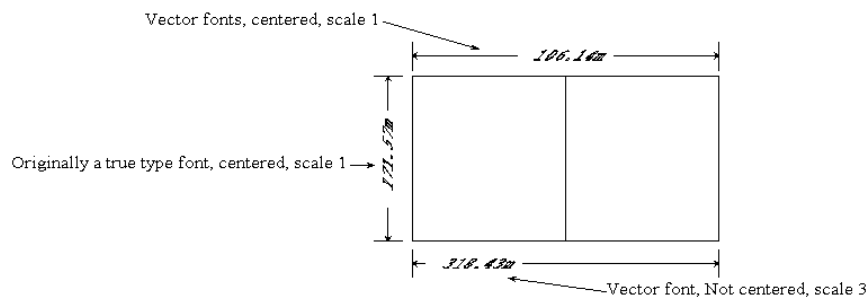

Figure 2-58 - Dimension Vector Fonts
- Slant Angle:** “Slant Angle” specifies the angle at which vector text is slanted to emulate Italics. The angle must be between -45° and 45° (see Figure 2-58).